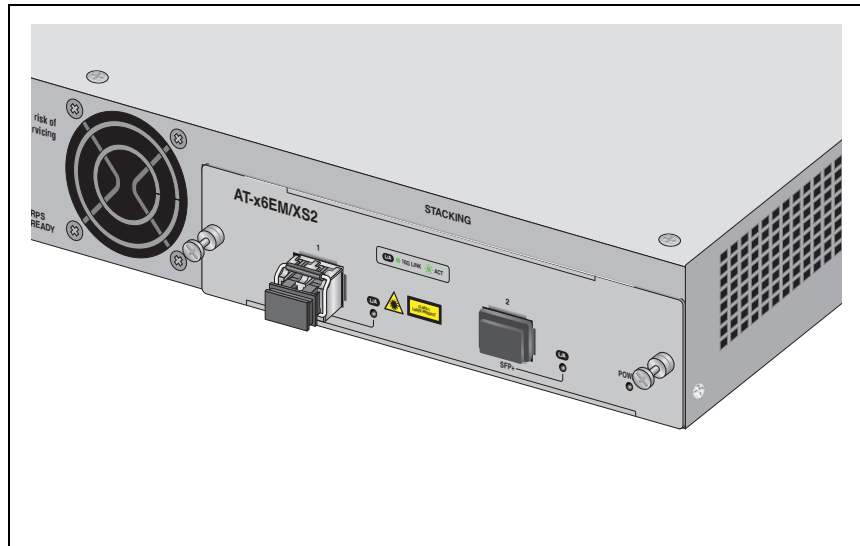

Figure 49. Positioning the SFP+ Transceiver Locking Handle
5. Verify that the handle on the SFP+ transceiver is in the upright position, as shown in Figure 49, to prevent inadvertently removing the transceiver.